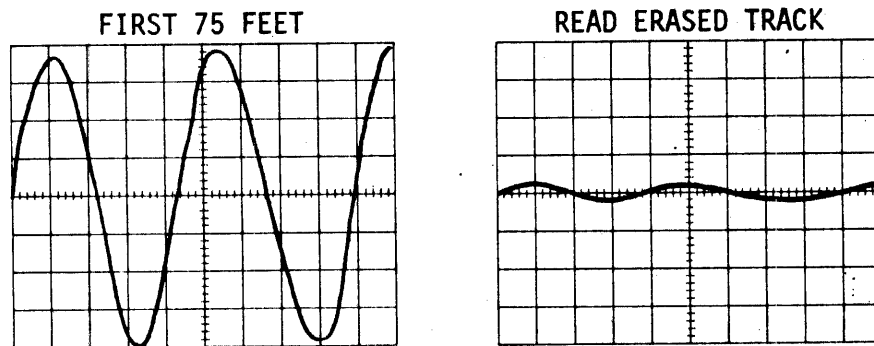

Figure 7-1 Vertical Track Position
7.3.1.2 Vertical Track Position Check (Figure 7-1).